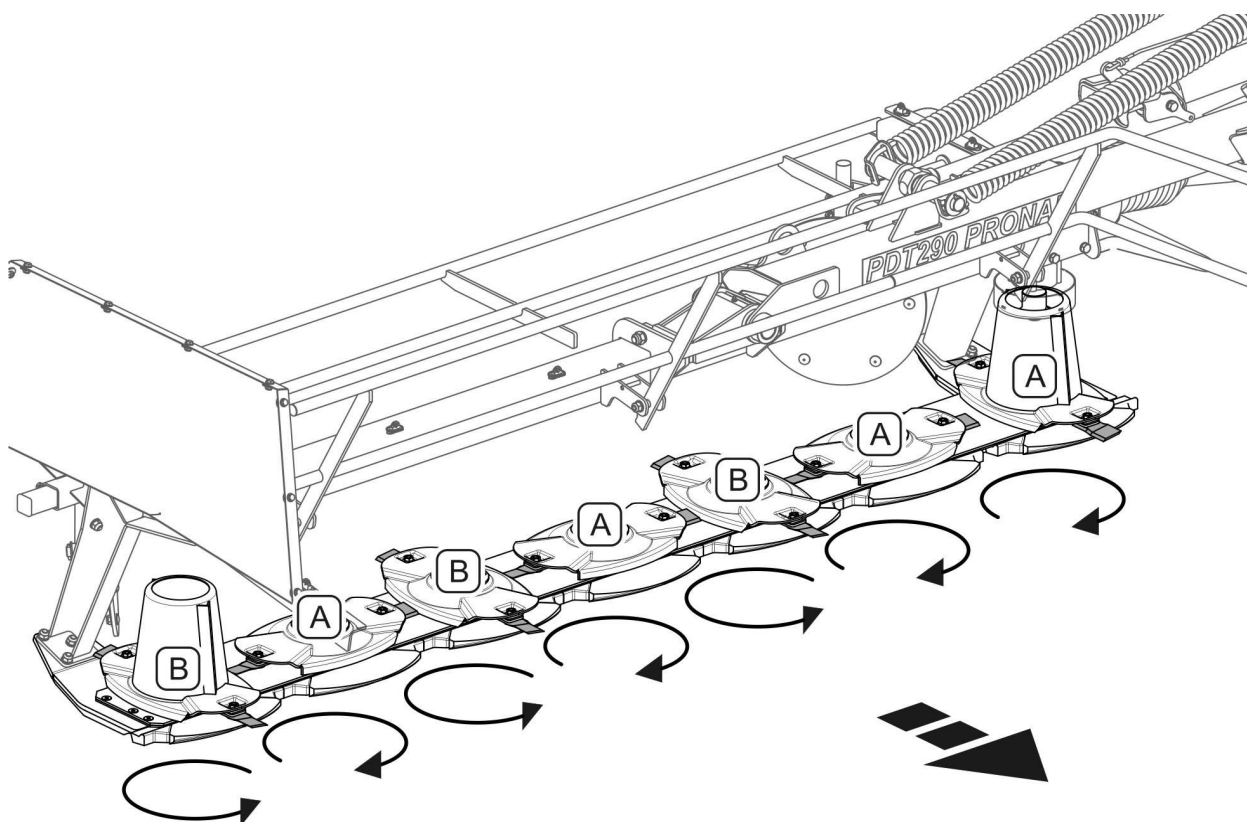

FIG. 5.2A Knife types depending on cutting disc rotation direction
Due to different cutting disc rotation direction, cutterbar (FIG. 5.2A) is equipped with the right knives (A) and left knives (B). Rotation direction is indicated on the knife.